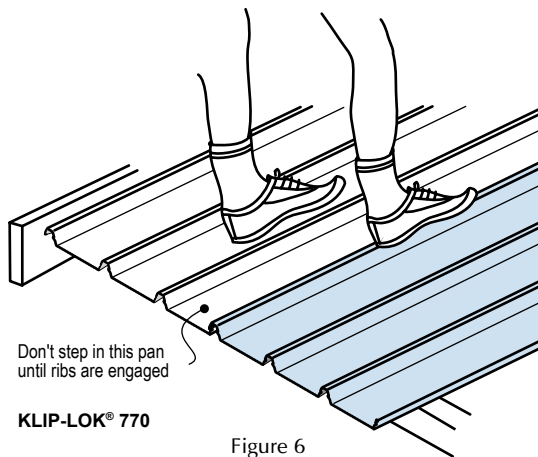

Figure 6
10. Engage the sheet with clips using vertical foot pressure on all the ribs over each clip (Refer figure 6).
14. Fully engage the two sheets along the overlapping rib. You can do this by walking along the full length of the sheet with one foot in the centre pan of the previous sheet and the other foot applying vertical pressure to the top of the interlocking ribs at regular intervals. It is important that you don't walk in the unsupported pan besides the overlap. A rubber mallet may help engagement of laps on long spans (Refer figure 6).